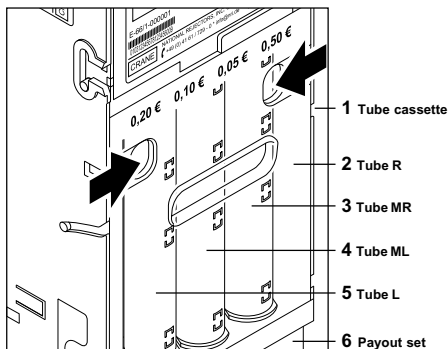

Fig. 3: Removing/replacing the tube cassette
The tube cassette **1** incorporates four change tubes **2–5** with different diameters for collecting up to four different coin types, which can be paid out to the customer (see Fig. 3). Which tube can collect which coin type, is identified by the sticker at the top of the tube cassette. The storage capacity for tube coins depends on the thickness of the coin type (guideline: approx. 62 times 0.50 euro coins per tube).
If at any time you require another combination of tube coins, e.g. several tubes for the same coin type in order to achieve a larger change capacity, the appropriate cassette can be ordered from NRI and simply be exchanged (see Fig. 3).
Paying out of change is done by means of two motors installed in the bottom of the payout set **6**, which turn in order to pay out coins. The left-hand motor is responsible for the "left (L)" **5** and "middle left (ML)" **4** tubes and the right-hand motor is responsible for the "right (R)" **2** and "middle right (MR)" **3** tubes. (See Fig. 3)